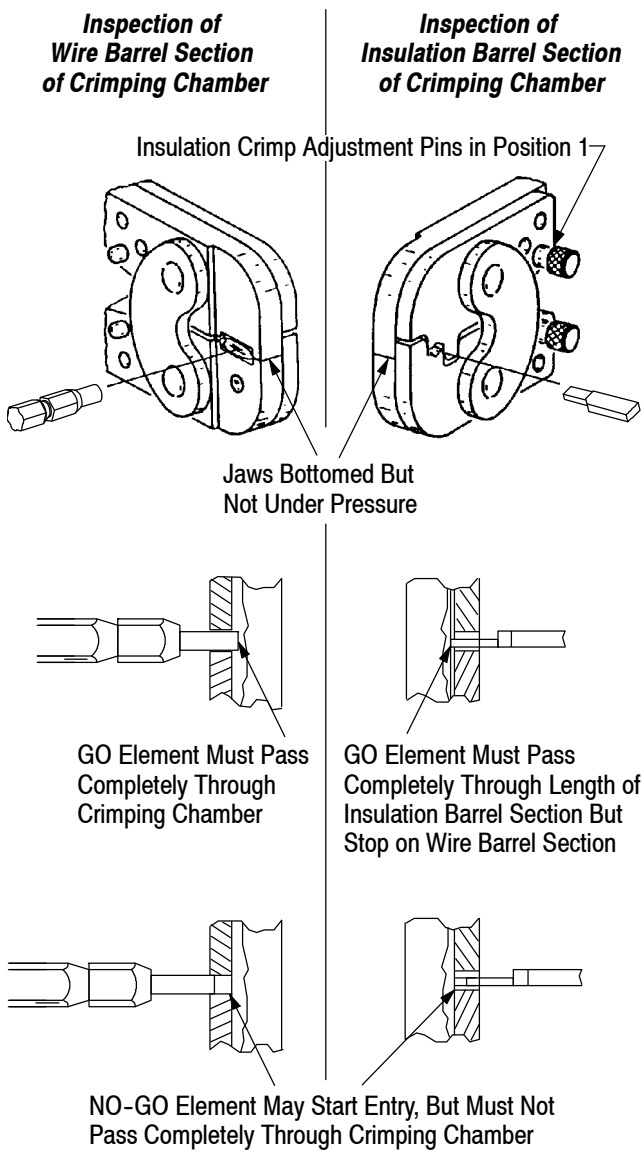

Figure 8
2. Insert each insulation crimp adjustment pin into Position 1. See Figure 8.
4. Carefully insert the GO element into the crimping chamber as shown in Figure 8; DO NOT force it. For the wire barrel section of the crimping chamber, the GO element must pass completely through the crimping chamber. For the insulation barrel section, the GO element must pass through the length of the section but will stop against the wire barrel section.
5. In the same manner, try to insert the NO-GO element into the crimping chamber as shown in Figure 8. The NO-GO element may begin entry, but may not pass through the crimping chamber.